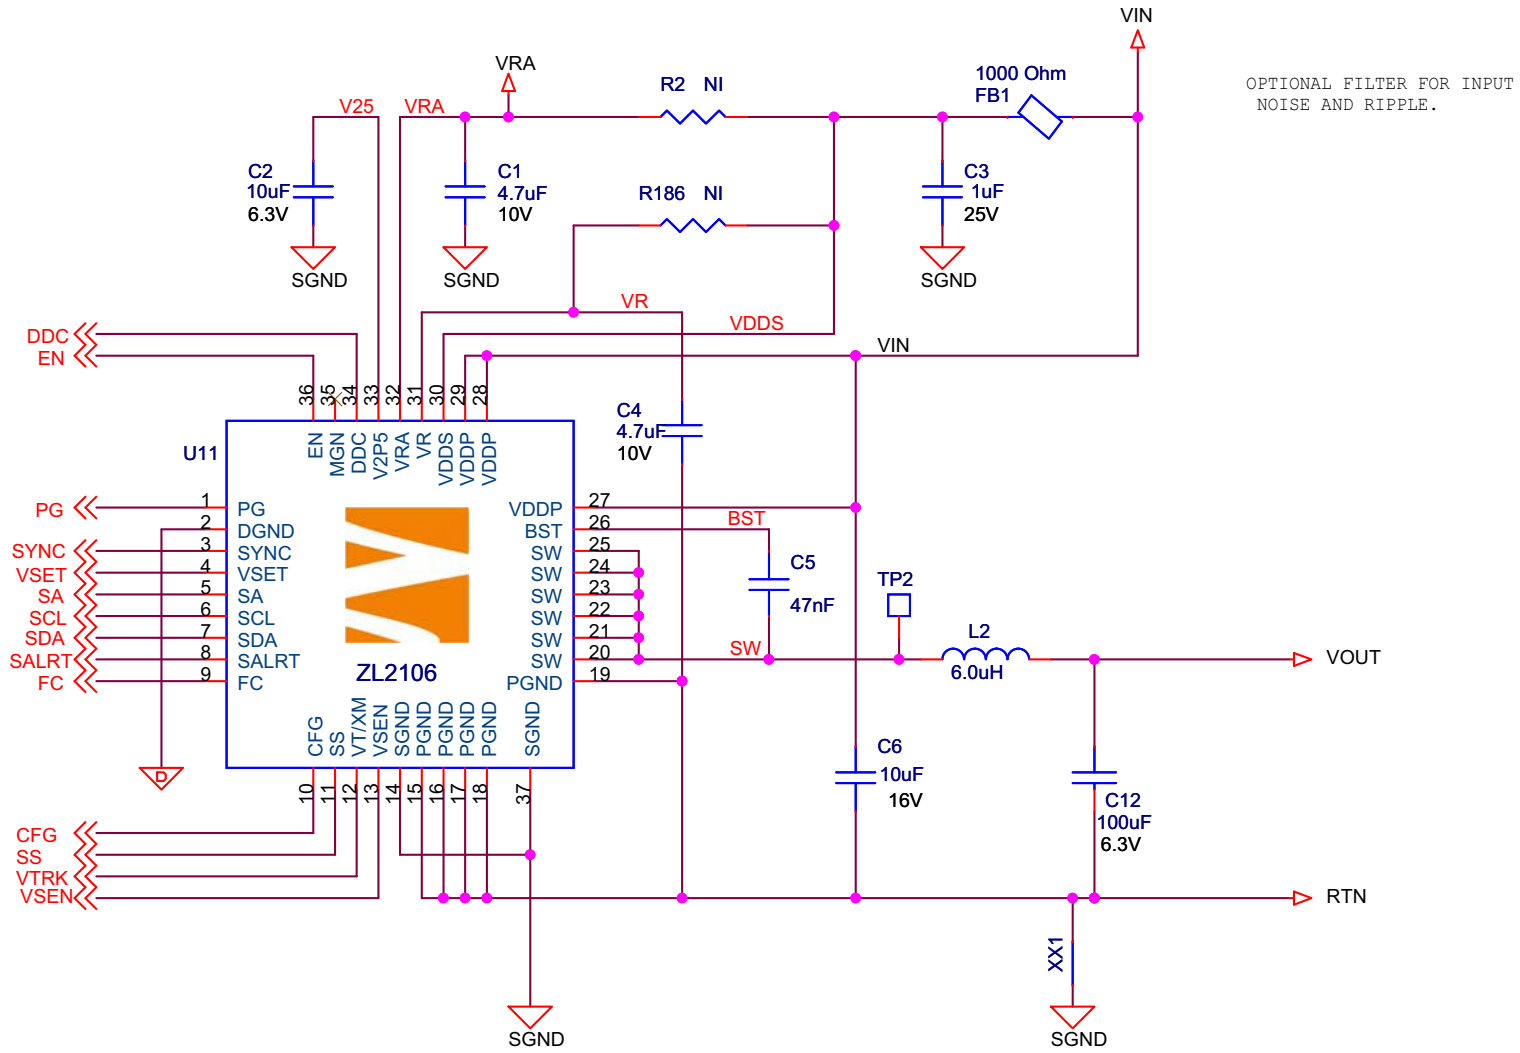

FIGURE 3. ZL2106EVAL1Z CIRCUIT
The hardware enable function is controlled by a toggle switch on the ZL2106EVAL1Z board. The Power-Good (PG) LED is powered from the I2C/SMBus source; it indicates the correct state of PG when external power is applied to the ZL2106EVAL1Z board. The right angle headers at opposite ends of the board are for connecting a USB to I2C/SMBus control board or for daisy chaining of multiple evaluation boards. Figure 3 shows the ZL2106 application circuit. The circuit consists of the ZL2106 power conversion and management IC with its minimal component count to realize a buck converter. The board layout has been optimized for thermal performance.
The board schematic in Figure 3 includes resistor population options for these connections.
NOTE: TP2 is labeled SW but is connected to BST (see Figure 3 schematic).